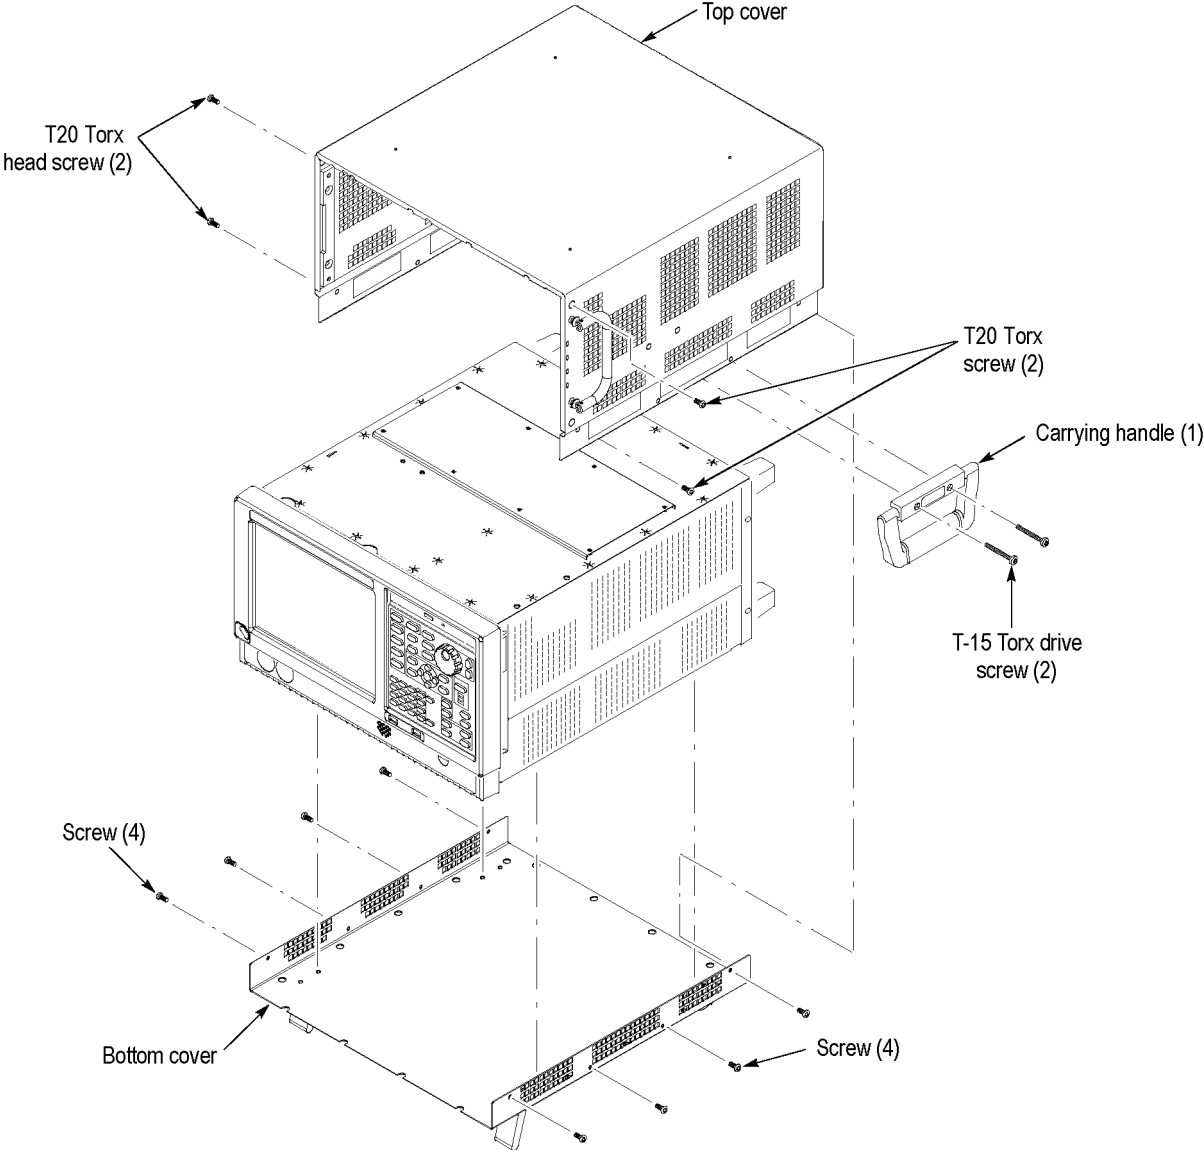

Figure 1: Remove cosmetic covers
3. Remove the two T15 screws that secure the plastic carrying handle to the side of the instrument. (It is not necessary to remove the black metal handles.) (See Figure 1.)